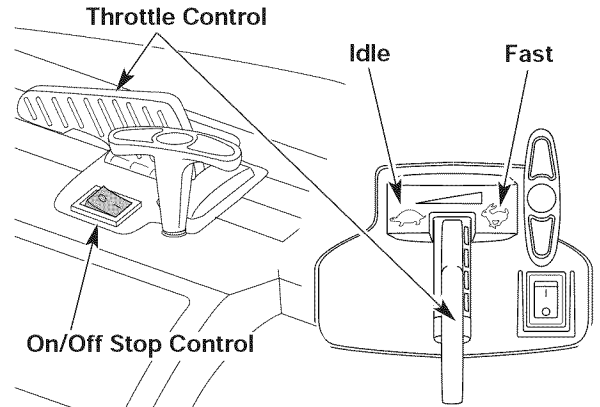
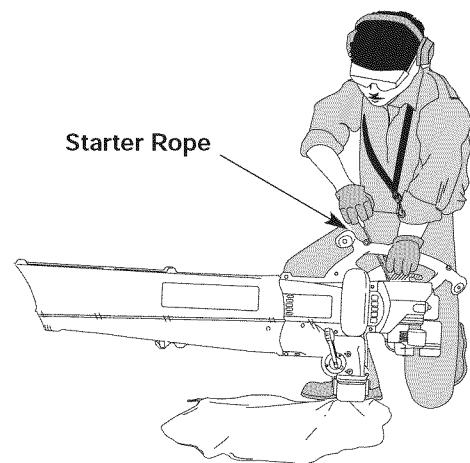

Fig. 9
Fig. 11
WARNING: Avoid accidental starting. Make sure you are in the starting position when pulling the starter rope (Fig. 11). To avoid serious injury, the operator and unit must be in a stable position while starting. Do not set unit on any surface except a clean, hard area while starting. Debris such as gravel, sand, dust and grass could be picked up by the air intake and thrown out by the discharge opening. This could damage the unit, property, or cause serious injury to bystanders or the operator.
4. Place the unit in the starting position (Fig. 11). Move the throttle control to the fast position (☛) (Fig. 9).